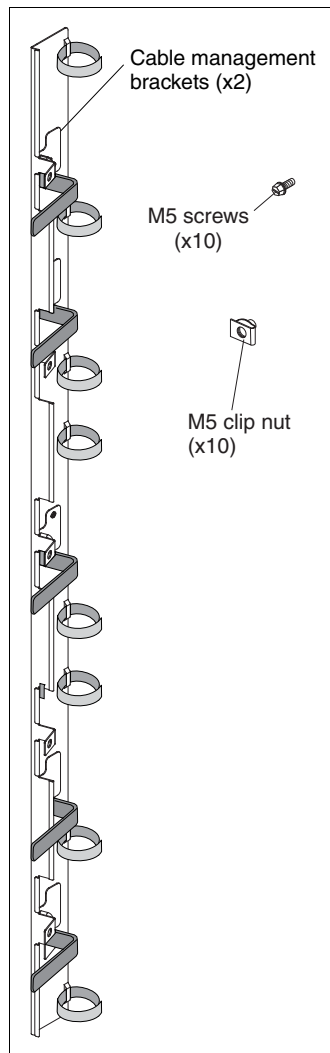

Figure 5-12 Cable management bracket
- Two front-to-rear cable channels on each side of the rack, as shown in Figure 5-12.
- Openings in the cable channels on each side of the rack to enable vertical cabling within the side panels, as indicated by arrows in Figure 5-12.
As seen in Figure 5-12 on page 80, the 42U 100 mm Enterprise V2 Dynamic Rack contains two front to rear cable channels on each side of the rack so routing cables to the back of the rack does not waste any U space in the rack. Having these multiple openings on each side of the rack at different heights reduces the overall size of the cable bundles that are supporting the compute nodes.